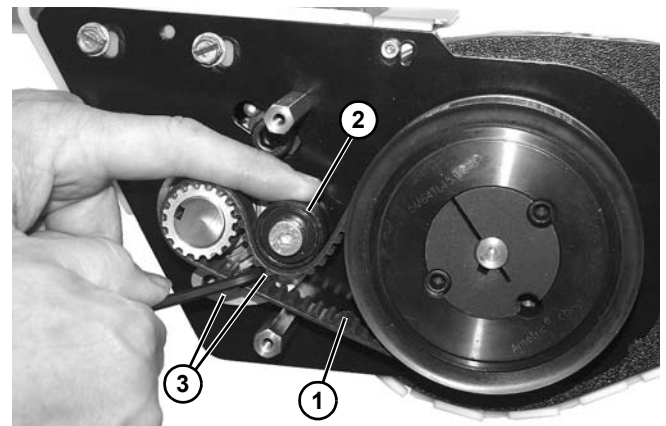

Figure 179
- On drive end, route and install belt (**Figure 179, item 1**) as shown. Press down on tensioner (**Figure 179, item 2**) and tighten two socket head screws (**Figure 179, item 3**).